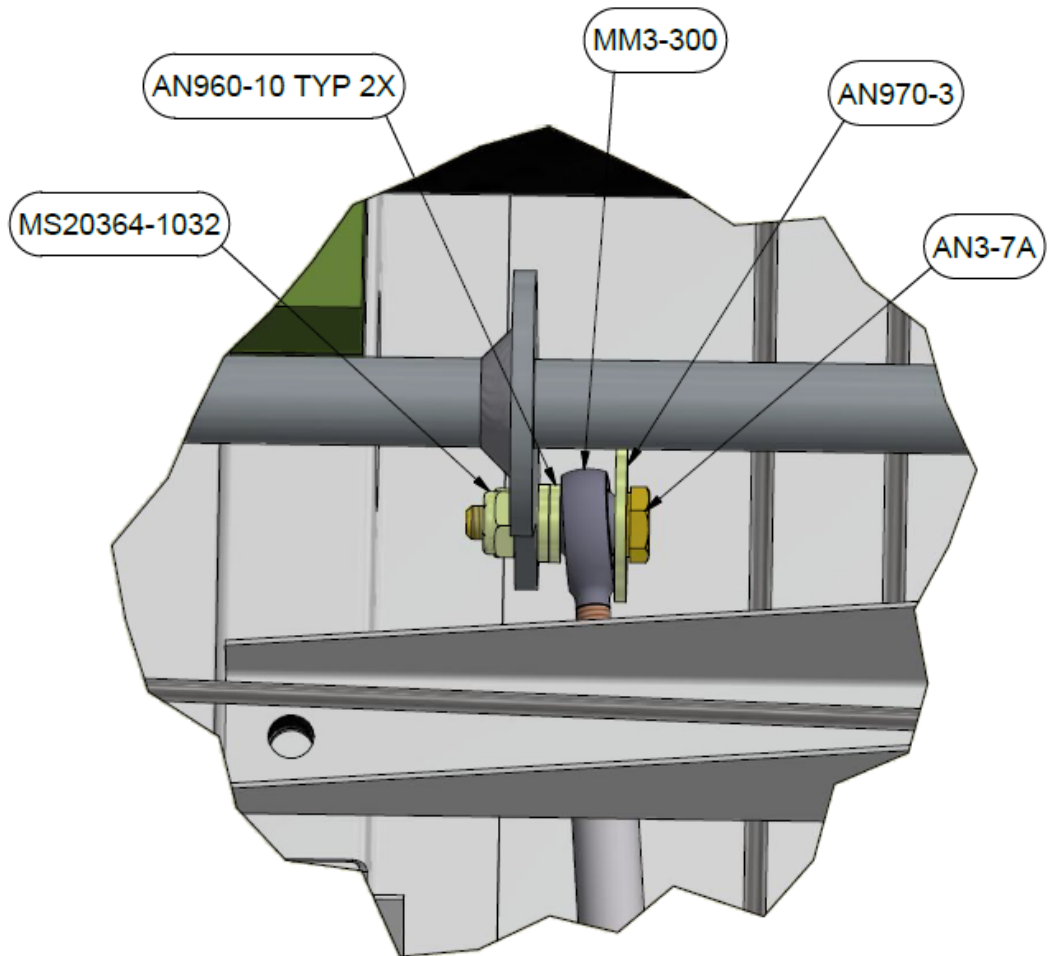

Figure 2-23
- 1.36. Attach the pitch pushrod assembly to the PA-28 bellcrank (P/N 7200-104) as shown in Figure 2-23.